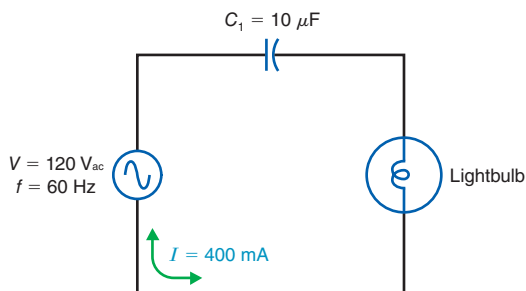

Figure 16-10
- 16.3 In Fig. 16-10, the capacitor and the lightbulb draw 400 mA from the 120-Vac source. How much current flows